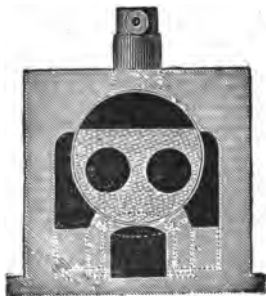

FIG. 7.—LANCASHIRE BOILER.
A. Into the "Lancashire," having two flues in the side, because on large sizes the single internal flue was too weak. (Fig. 7.)